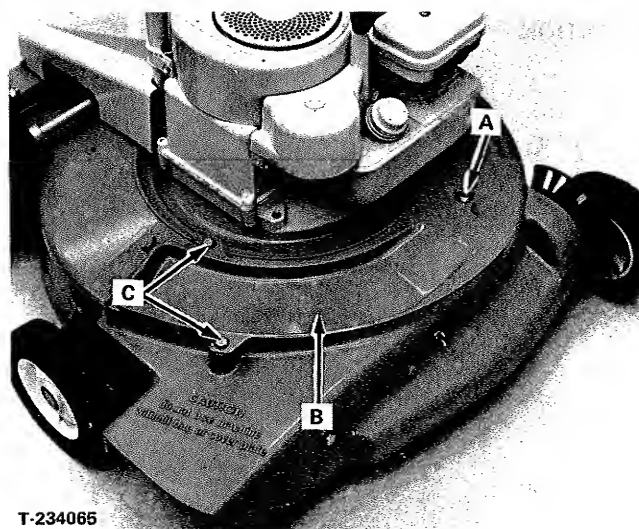

FIGURE 3 - DECK PLATE
1. If the deck plate (B, figure 3) is installed remove it by unscrewing the wing screw (A). Slide out the deck plate from under the two spring bolts (C). Figure 3.
3. Reinstall the deck plate by sliding the two slots under the spring bolts. Install the wing screw (A, Figure 3).
2. Install only the deck plate (B, Figure 3) for side discharge.